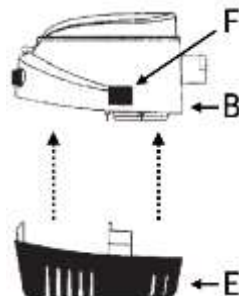

Fig. 1
2. Press the lock tabs (F) and separate the pump body (B) from the filter (E), setting it aside. (Fig. 1).